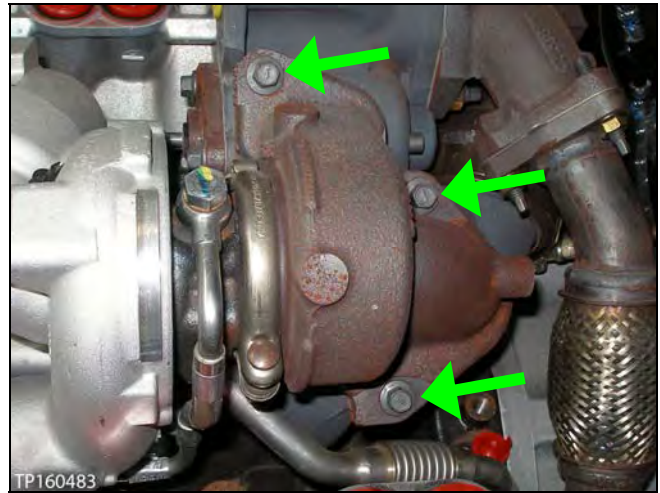

Figure 41
30. Unbolt the high pressure turbocharger from the low pressure turbocharger (see Figure 41).